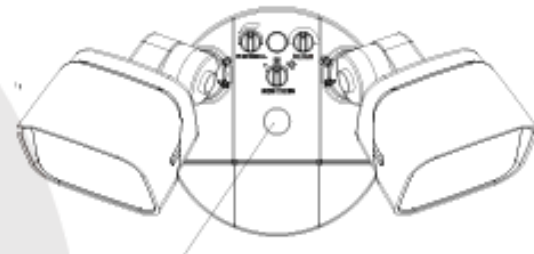

Figure 6
6. Reattach the rubber cap securely (Figure 6).